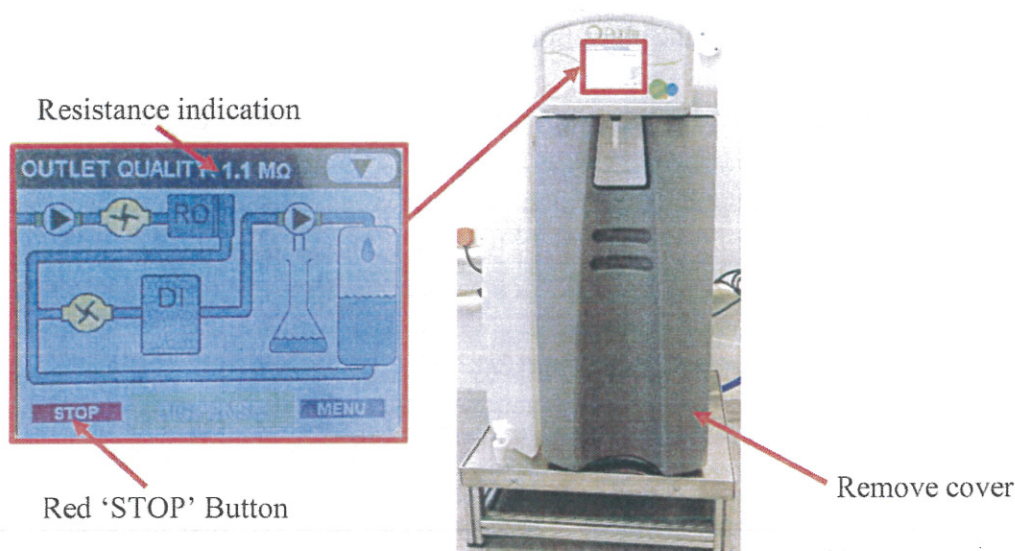

Figure 1: Purite System for CR1, shown with a zoomed in view of the control panel.
6.2.1. **When to Change the Filter Cartridges.** Change the filter cartridges only if the resistance measured on the resistance meter on the control and as shown in Figure 1: is below the required level, as indicated by the Cleanroom Activity Log (Document Number AEU00496).
6.2.2. **Switch Off Filter Unit.** Switch off the filtration unit at the control panel by pressing the red 'STOP' button, as identified in Figure 1: